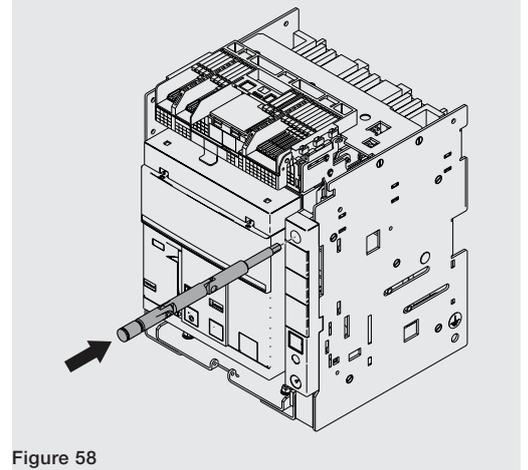

Figure 58
9. Replace the crank in its housing See Figure 58.